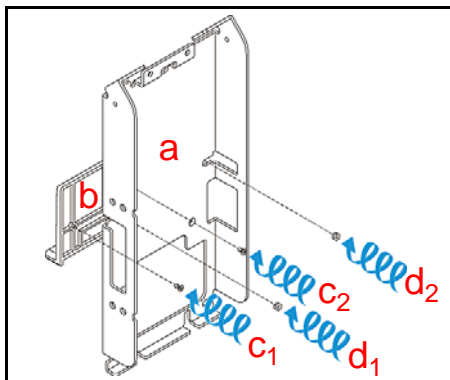

Figure 4 M4 Nut and DIP Switch Locations
6. Connect the attached Bezel Plate (See Figure 4 a) on the VEGA SD/SU Bracket (See Figure 4 b) using two (2) M4 screws (See Figure 4 c₁ & c₂).
7. Mount the VEGA SD/SU Bracket into place on the Host Machine using two (2) M4 Hexnuts (See Figure 4 d₁ & d₂).